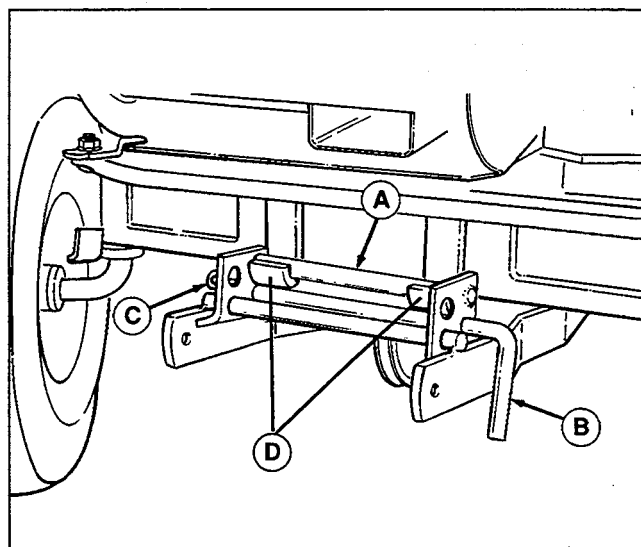

Figure 8. Installing Hitch to Front of Tractor
3. See Figure 8. Turn the wheels fully left and lift the front hitch bar (A) up onto the tractor brackets (D). Make sure it is fully seated into the tractor brackets. Install the long latch rod (B) through the bracket (bottom rear holes), and secure it with the safety clip (C).